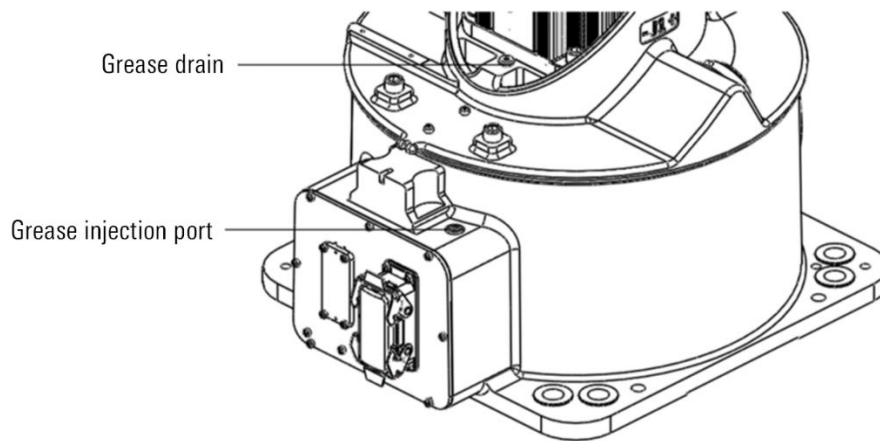

Figure 12-6 Replace J1 axis reducer grease
- Step4. Remove the grease outlet M10x1 plug, as shown in Figure 12-6.